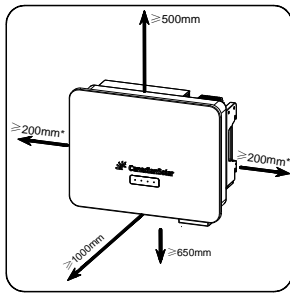

FIG 3-3 Single inverter installation clearance
- 1) Reserve enough clearance around the inverter to ensure sufficient space for heat dissipation, as shown in FIG 3-3.